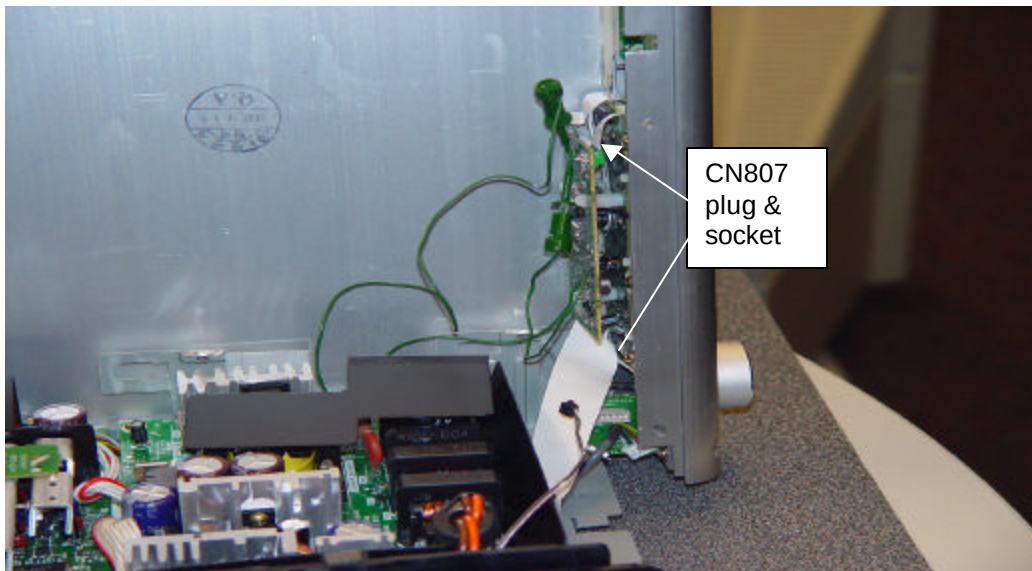

FIGURE 8-2 - COVER OFF / POWER ON
3. On the front panel circuit board as shown in Figure 8-2, jump CN807. The unit should power up and show the model number in the display followed by "Ready".